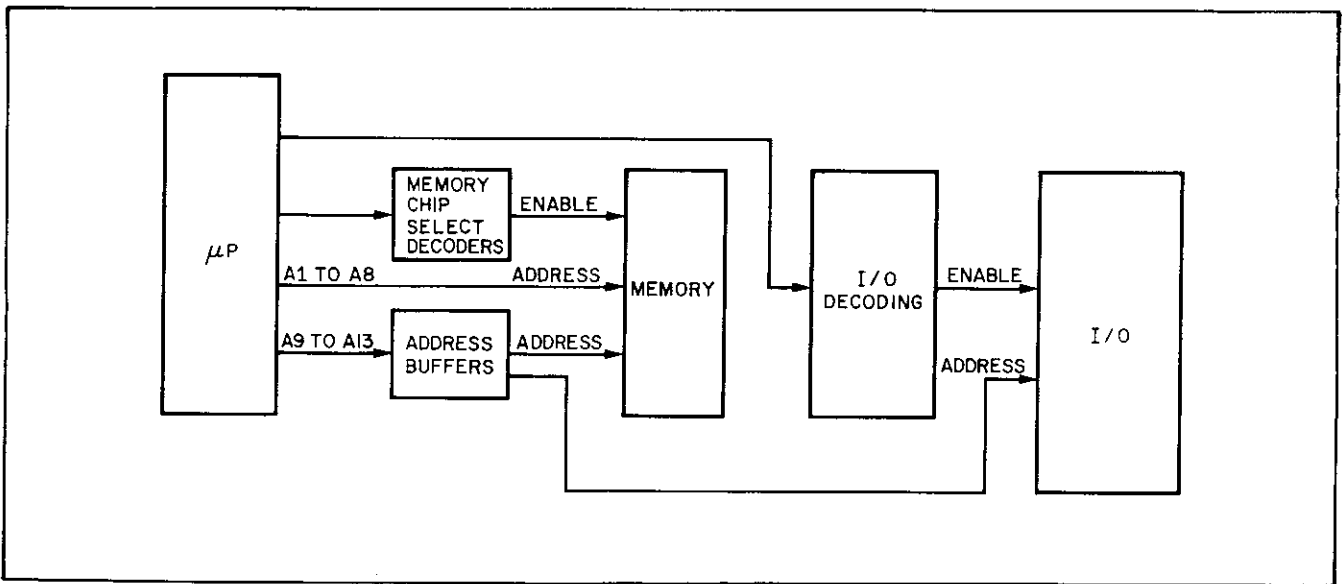
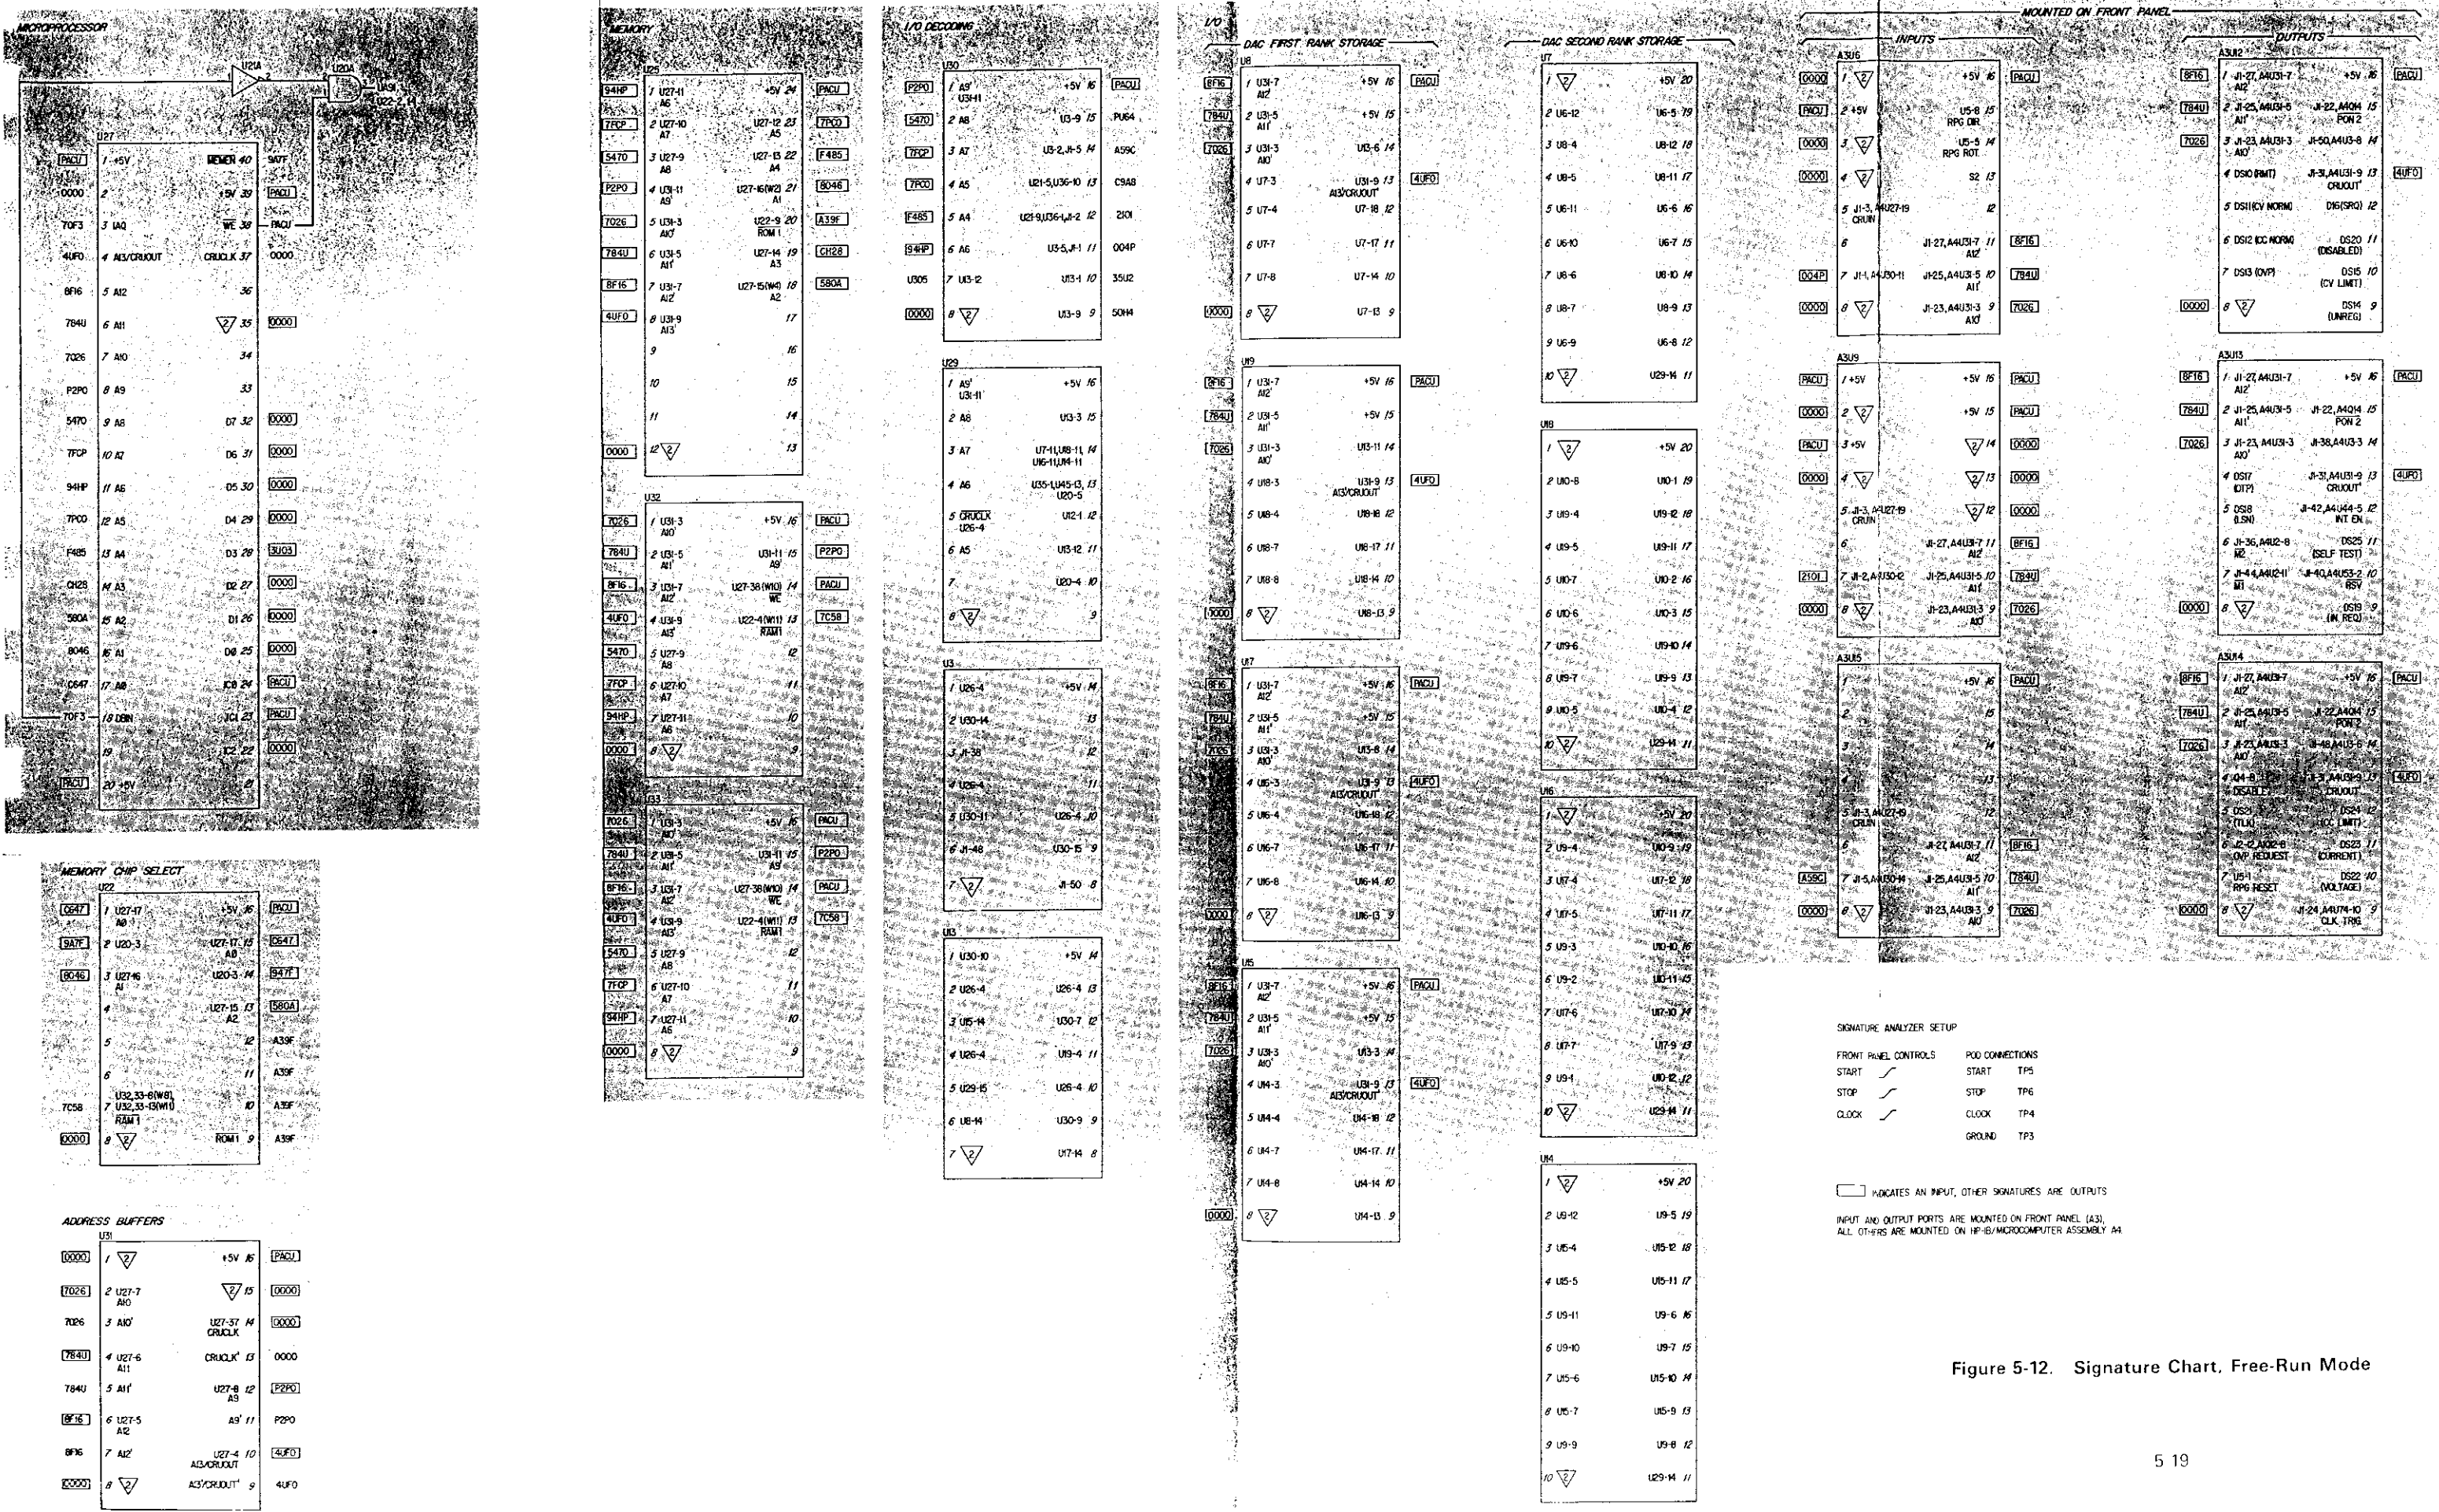

Figure 5-10. Signature Analysis Map
Figure 5-12. Signature Chart, Free-Run Mode
5-89 Figure 5-12 shows the signatures that should be found in free-run mode. To operate the 6034A in free-run mode for signature analysis of the microcomputer kernel, proceed as follows.
1. Figure 5-10 shows the circuit functions that are checked using signature analysis, with arrows directing the user from one functional area to another. Figures 5-12 and 5-15 are arranged similar to Figure 5-10 and are subdivided by circuit function.
5-93 Set the free-run jumper pack in the free-run mode position, and set the signature analyzer controls as shown on Figure 5-12. Start taking signatures at the microprocessor. If all microprocessor signatures are correct, check the memory chip select decoders and then the memory devices. If all inputs to a component are good but the output is wrong, that component is probably bad. Check also for a short on the printed-circuit board or other components that might be loading that node.